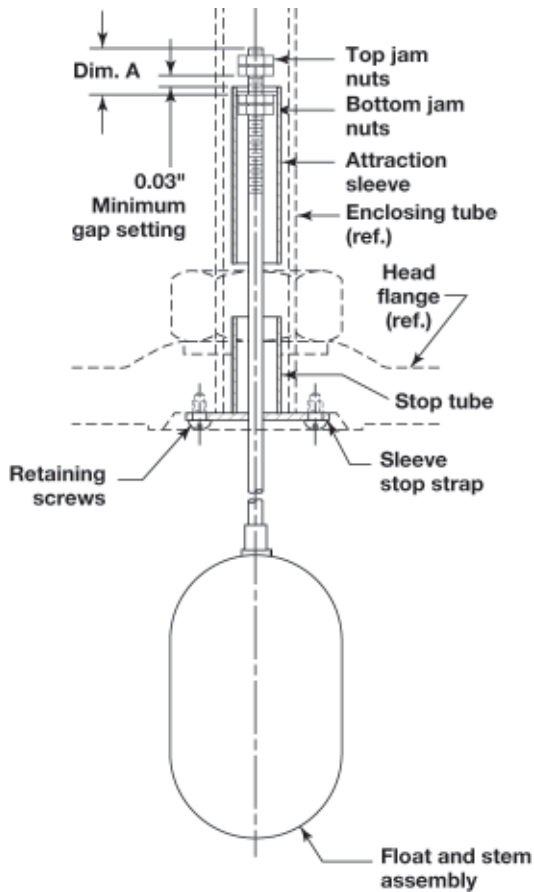

Figure 11
NOTE: New float and stem kits are supplied unassembled. For standard jam nut settings (dimension A) refer to Figure 11 and Table 1.
- Set attraction sleeve per dimension A as shown in Figure 11.